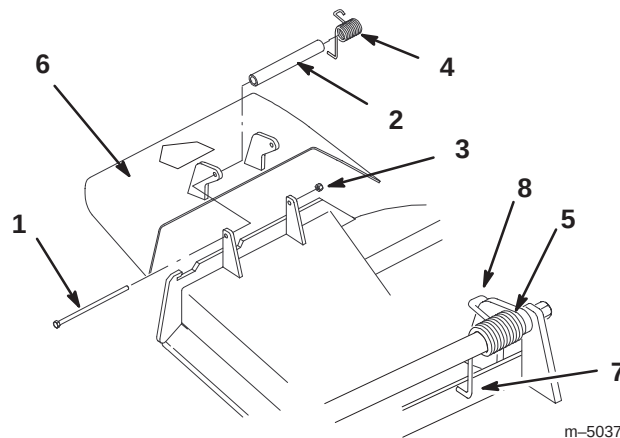

Figure 1
1. Remove the tension on the spring by unhooking the spring (Fig. 1).
2. Remove the locknut, bolt, spring and spacer holding the deflector to the pivot brackets (Fig. 1). Save the spring.
4. Place the L end of spring behind deck edge (Fig. 1).
Note: Make sure the L end of spring is installed behind deck edge before installing the bolt as shown in Figure 1.
7. Place the J hook end of spring around grass deflector (Fig. 1).